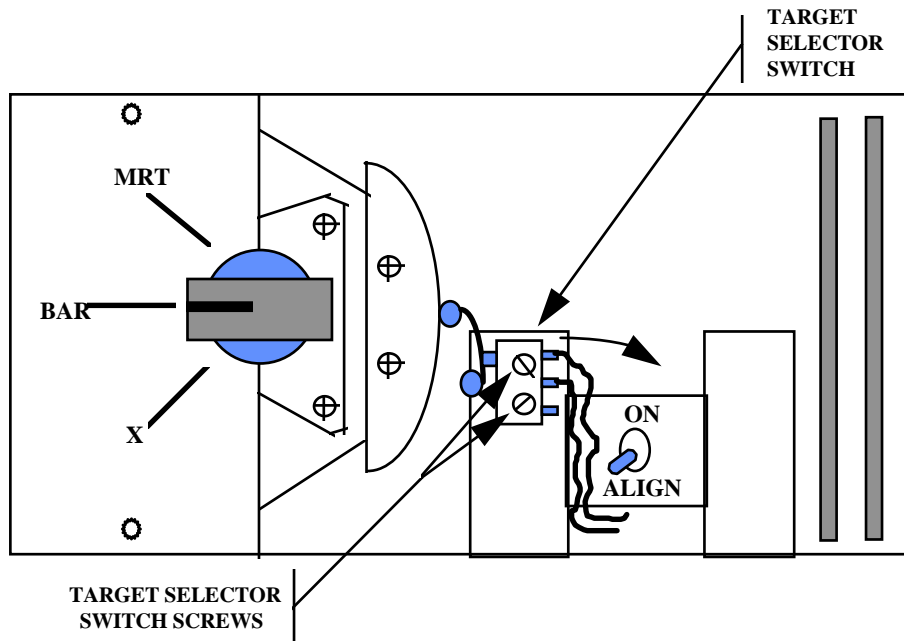

Figure 7. Loosening target selector switch mount. (ON-ALIGN switch is shown for clarity only.)
(7) Loosen TARGET SELECTOR SWITCH SCREWS and move TARGET SELECTOR SWITCH back to disengage TARGET SELECTOR SWITCH contacts (fig. 7).
b. Remove **TI LARGE COVER PLATE** (fig. 2), place **TARGET SELECTOR SWITCH** back in original position and tighten **TARGET SELECTOR SWITCH SCREWS** (fig. 7).